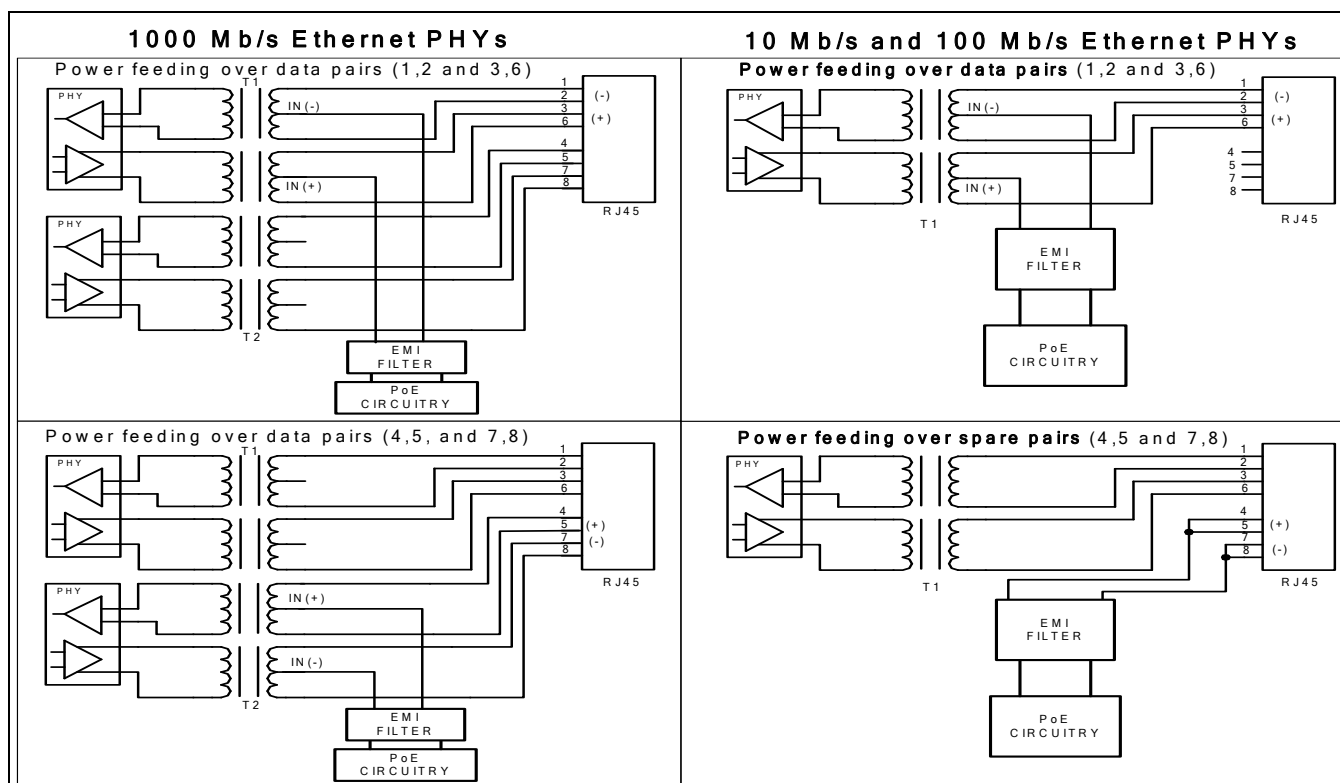

Figure 6: Output Ports Design Details
As specified in the IEEE PoE standards, PoE output power can be supplied over the data pairs or the spare pairs. Both methods are detailed in Figure 6
- The PoE ports outputs must be connected to the switch's pulse transformers as shown in Figure 6. The common mode choke is used to reduce RFI noise. A 'Bob-Smith' termination (resistor-capacitor) to chassis ground is optional. The circuit is to be located as close as possible to the pulse transformer.